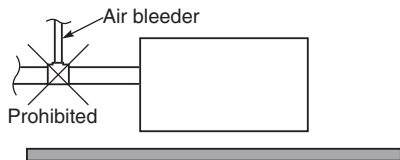

Fig. 3-10
- Do not install an air bleeder as this may cause water to spray from the drain pipe outlet. (Fig. 3-10)